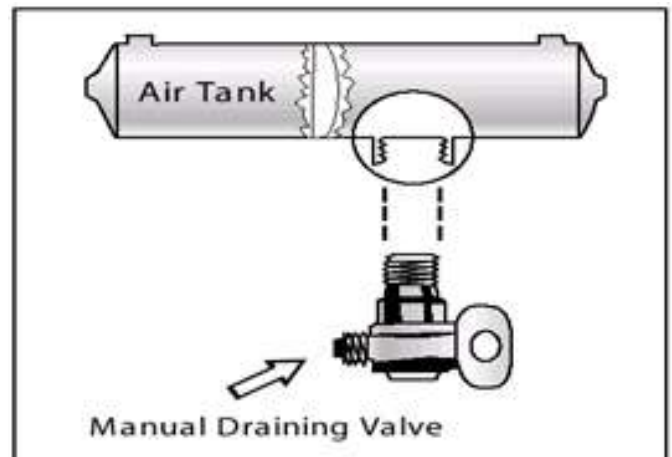

Figure 5.1
- ✓ Manually operated by turning a quarter turn or by pulling a cable. You must drain the tanks yourself at the end of each day of driving. See Figure 5.1.